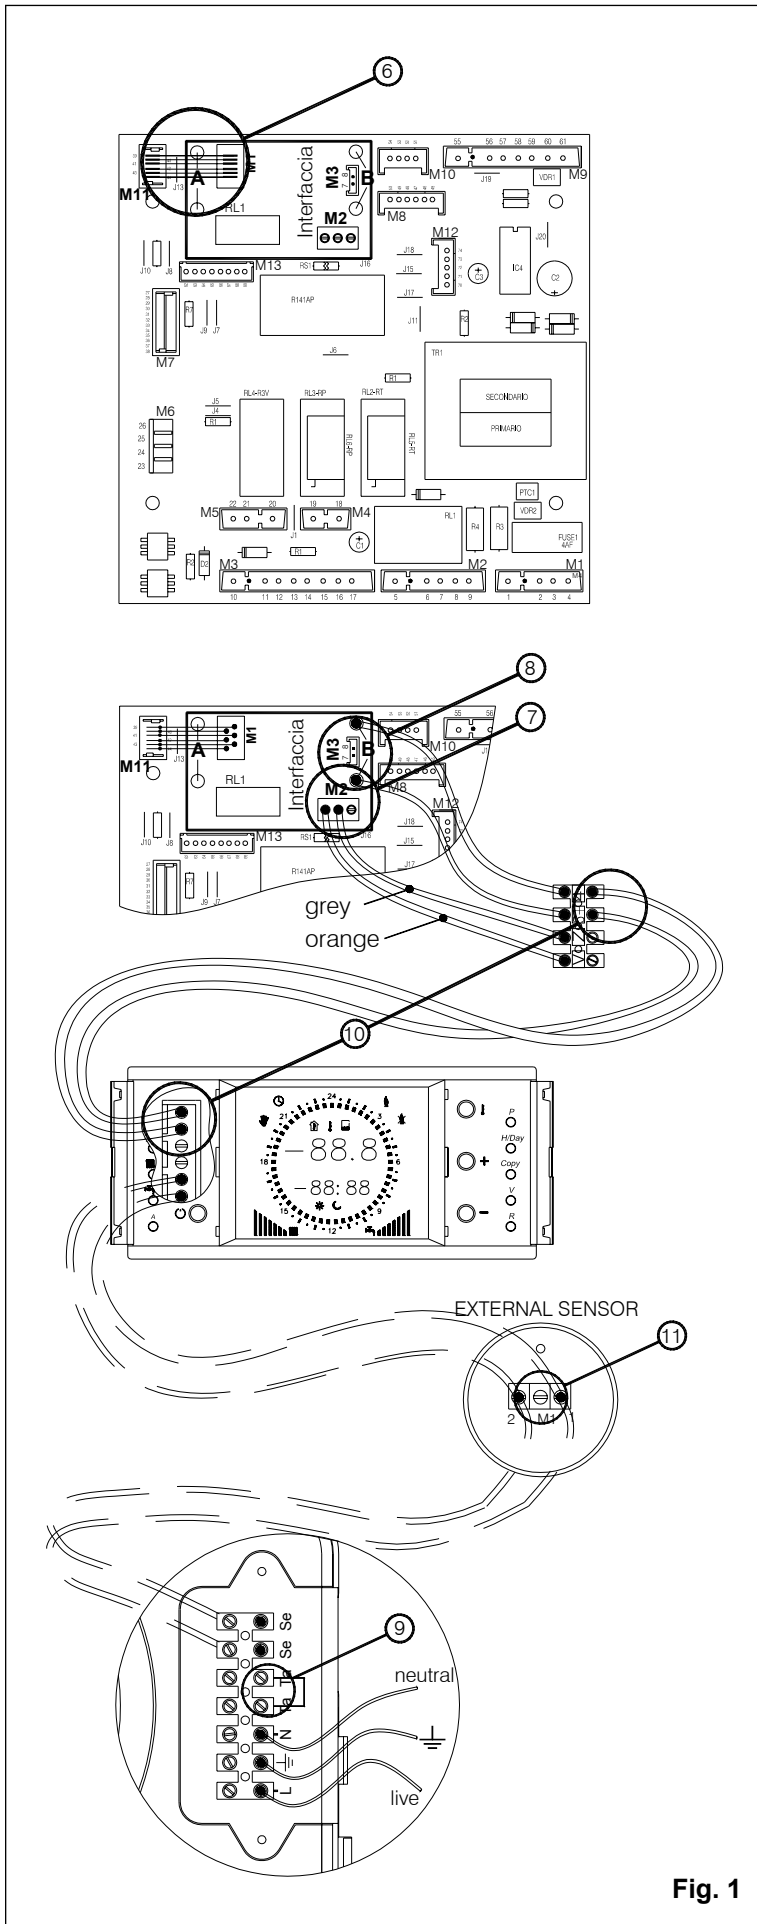

Fig. 1
6. Connect plug M1 to the interface board and plug M11 to the modulation board (fig. 1).